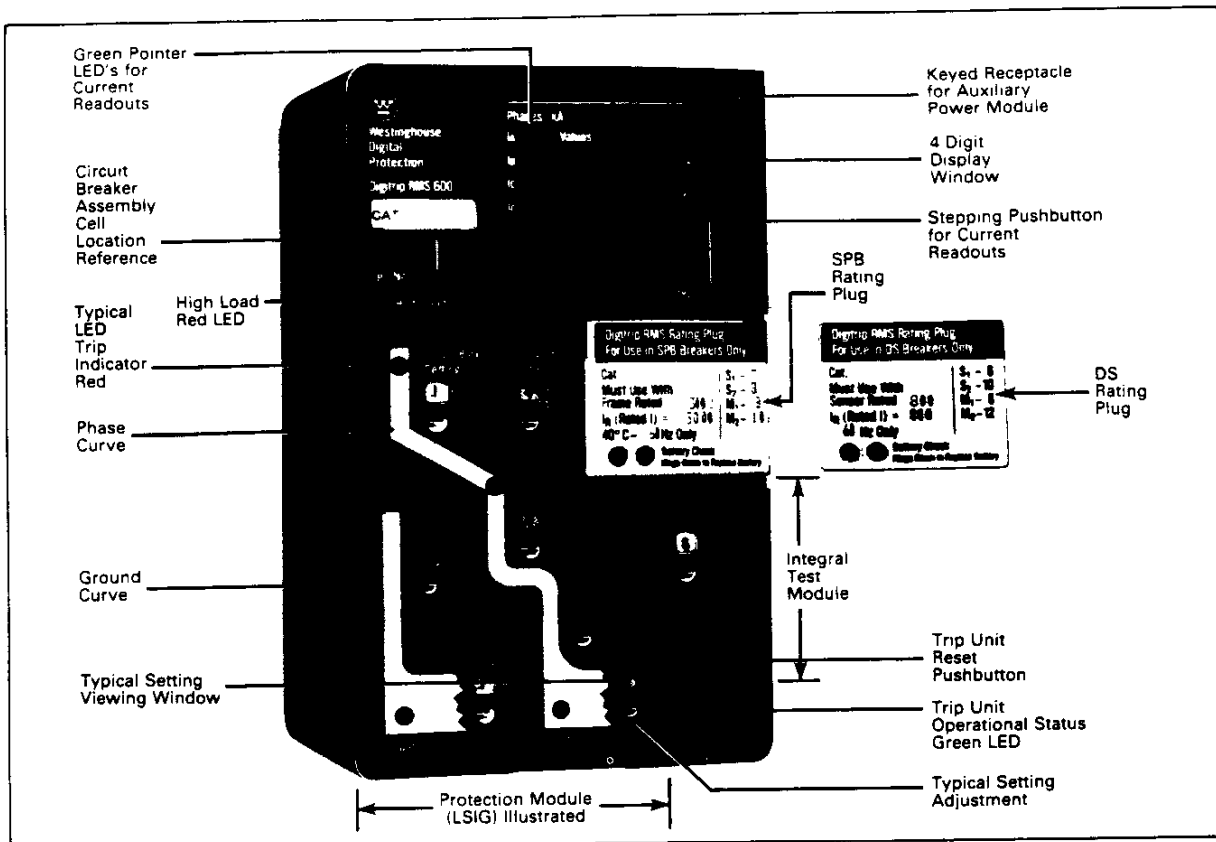
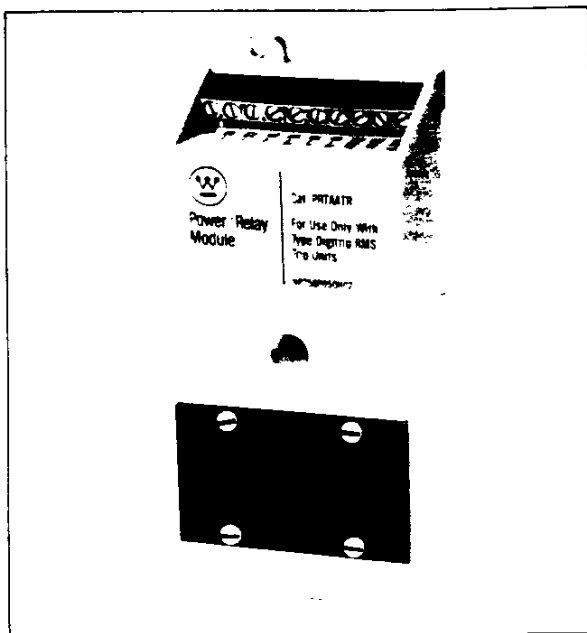

Fig. 1 Typical DIGITRIP RMS 600 Trip Unit with Rating Plug Installed
Fig. 4 Power Relay Module.
The DIGITRIP RMS 600 Trip Unit, illustrated in Fig. 1, is a micro-processor based type trip unit suitable for use in type SPB Systems Pow-R circuit breakers and types DS and DSL low voltage AC power circuit breakers.
In addition to the protection function, the DIGITRIP RMS 600 Trip Unit is equipped with a four-digit, alpha-numeric readout display, three phase and one ground (when supplied) current pointer green LEDs along with a stepping pushbutton as illustrated in Figs. 1 and 2. A Power Relay module is included to provide control power for operating the readout display and internally mounted signal relays. The signal relays provide contacts for three remote mode of trip indicators (long delay, short circuit, ground fault) and a High-Load remote alarm.
The DIGITRIP RMS 600 Trip Unit provides three basic functions: Protection, Information and Testing. A typical trip unit and rating plug are illustrated in Fig. 1. Individual product instruction leaflets referenced in Sections 9.1 and 9.2 illustrate typical DIGITRIP RMS Trip Units installed in specific breakers.
Red colored LEDs, as shown in Figs. 1 and 2, also indicate on the face of the trip unit the mode of trip of any automatic trip operation. As indicated in Fig. 2, each LED is strategically located in the related segment of the Time-Current curve depicted on the face of the trip unit. The mode of trip is identified by the segment of the Time-Current curve in which the LED is turned "On".
A green colored battery check, LED and test pushbutton, as shown in Figs. 1 and 5, are provided to check the status of the battery.
A green colored LED, as shown in Fig. 1, indicates the operational status of the trip unit. With external control power available at the Power/Relay module (or via the external Auxiliary Power module during bench testing operations), the green LED will flash "On" and "Off" once each second. A flashing green LED is an indication of a properly operating trip unit.
A red colored LED, as shown in Fig. 1, indicates that the load current through the circuit breaker has reached 85% of the preset value of the Long Delay Setting. The High-Load LED will turn "On" and the High-Load relay, located internally in the Power Relay module shown in Fig. 4, will pick-up after an approximate 40 second delay. This delay allows the alarm to ride-through a momentary high-load condition thus avoiding nuisance alarms.
The four-digit alpha-numeric readout display window, illustrated in Figs. 1 and 2, serves two basic purposes: instrumentation and mode of trip or trouble indication.
Normal service messages are those that serve the ammeter instrumentation function. In Fig. 1, four green colored LEDs serve a pointer function, i.e., phase A current (I_A), phase B current (I_B), phase C current (I_C) and ground current (I_G). The ground current LED will be included only if integral ground fault protection is included as an integral part of the trip unit protections functions.
1. The Long Delay Trip LED will turn "On" (see Fig. 1)
2. The coded message LDT will appear in the Display Window (see Fig. 1)
2. Depress Stepping Pushbutton twice (see Fig. 1). This action will clear the coded cause of trip message in the Display Window.
3. View value of phase current in Display Window (see Fig. 1) e.g., 1.50 (in kA)
NOTE: The phase current shown will be that referenced by the Pointer LED (see Fig. 1) that is turned "On," assume "IA". It may not be the faulted phase).
5. Reset the trip unit by depressing the "Trip Reset" pushbutton (see Fig. 1). All coded messages and current values in the display window, the cause of trip LED and the signal relay in the Power Relay module will turn "Off".
1. The "High-Load" LED (Fig. 1) would have been turned "On" if the overload condition had existed for 40 seconds or longer.